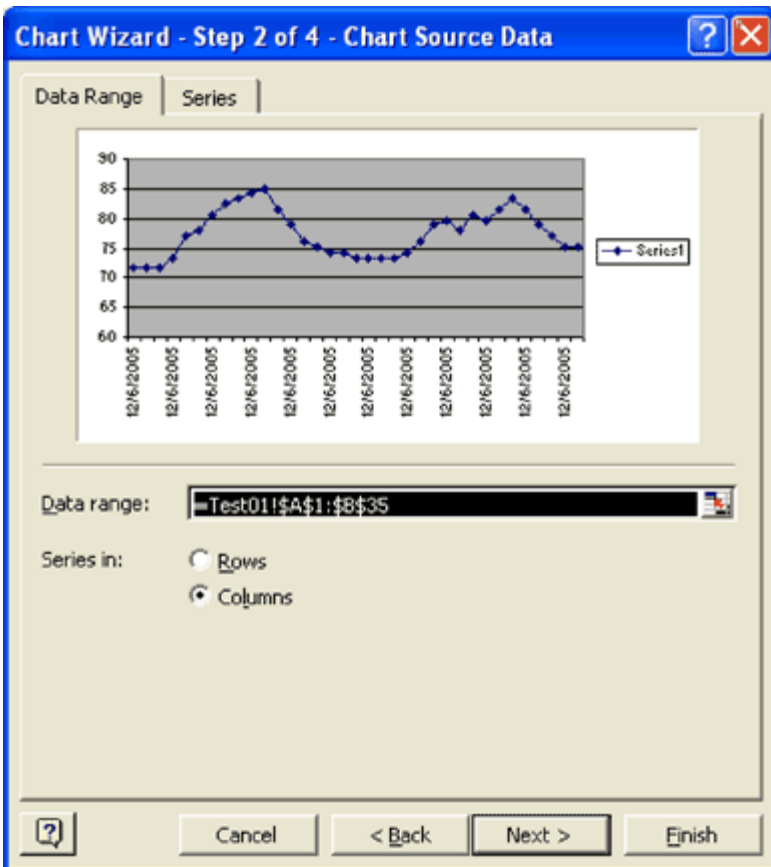

Figure 13. A sample view of the chart lets you preview and check your data.
5. A sample of the graph will be shown. This allows the data range to be checked and set (Figure 13).